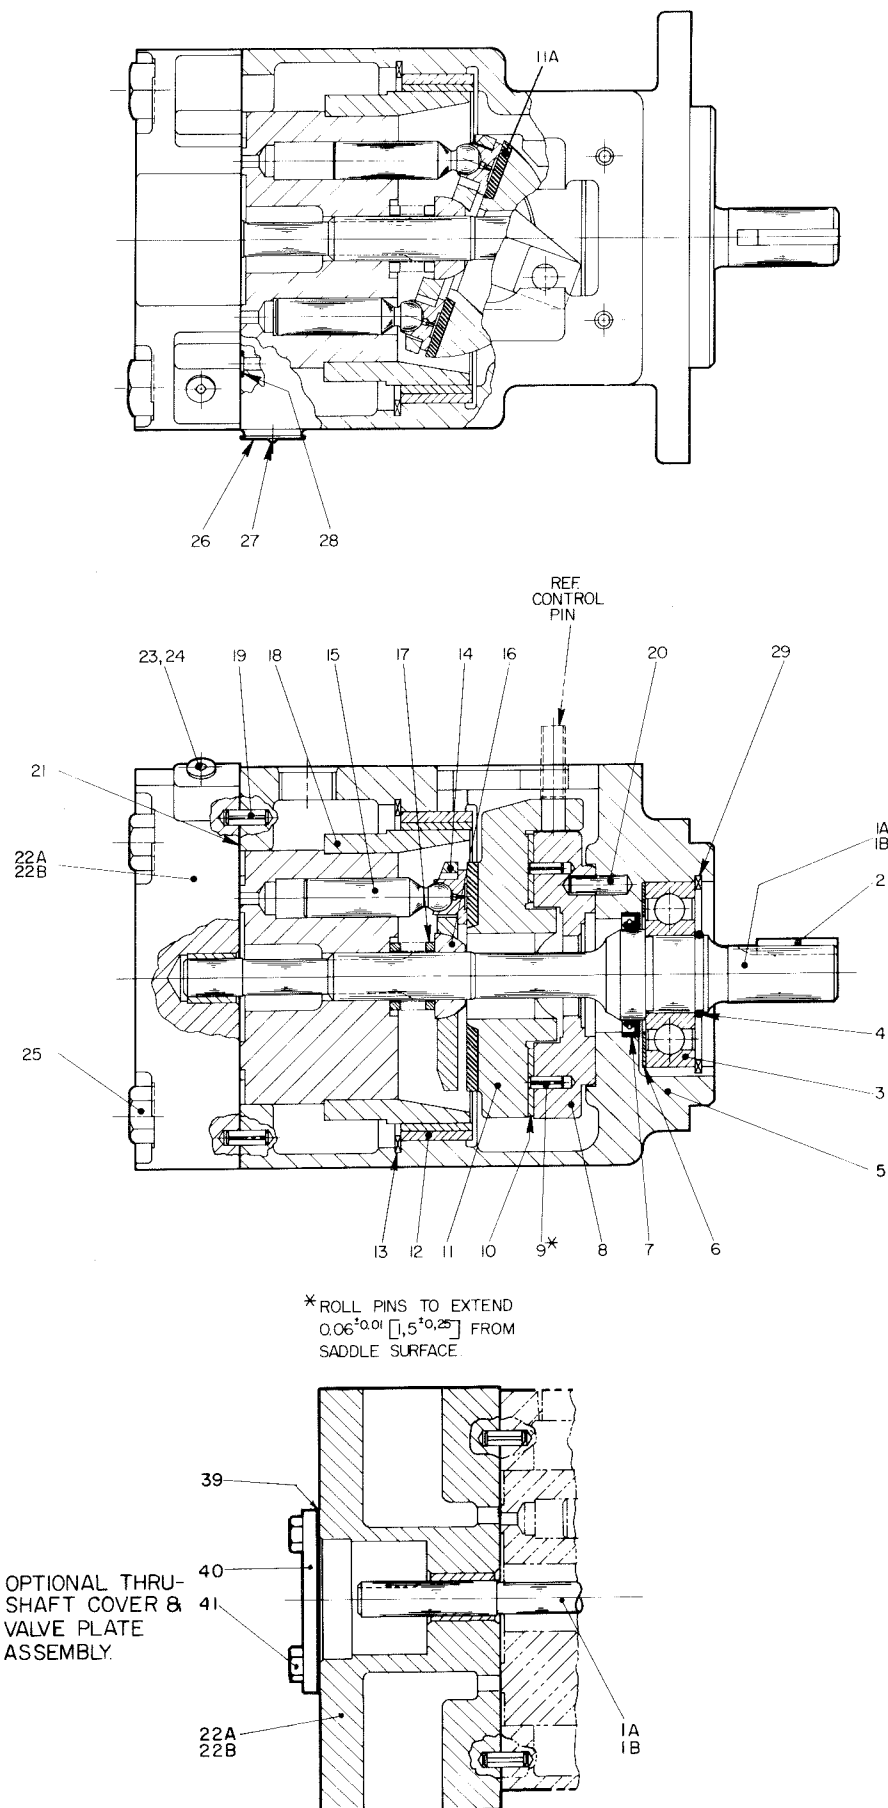

Figure 9. Parts Drawing, "PVW" Pump, Thru-Shaft and Cover Plate Kit. (511783)
1. See Figure 9. Block unit on bench with driveshaft facing down. Remove valve plate (22A or B) by removing four hex head cap screws (25) and lifting straight up.
1. See Figure 9. Remove drive key (2) and retaining ring (29). Grasp keyed-end or splined-end of shaft (1A or B) and pull from pump housing. Remove shaft seal retainer (6) from housing.
2. Remove bearing retaining ring (4) and bearing (3) from shaft. Pull swashblock (11), saddle bearing (10) and saddle (8) from pump housing.
See Figure 9. Inspect the swashblock (11) for wear and scoring. If the defects are minor, stone the swashblock lightly. If wear or damage is extensive, replace the swashblock as part of Swashblock Kit No. 82.
See Figure 9. Grease back side of saddle bearings (10) and place in the saddle (8), being sure pins (9) do not protrude. NOTE: Install saddle bearings on sizes 06–10 with notched corners toward shaft and bearings on sizes 34–45 with notched corners away from shaft. Does not apply to sizes 15–20. Place the swashblock (11) in the saddle. Check to be sure the swashblock will “cradle” easily within the saddle.